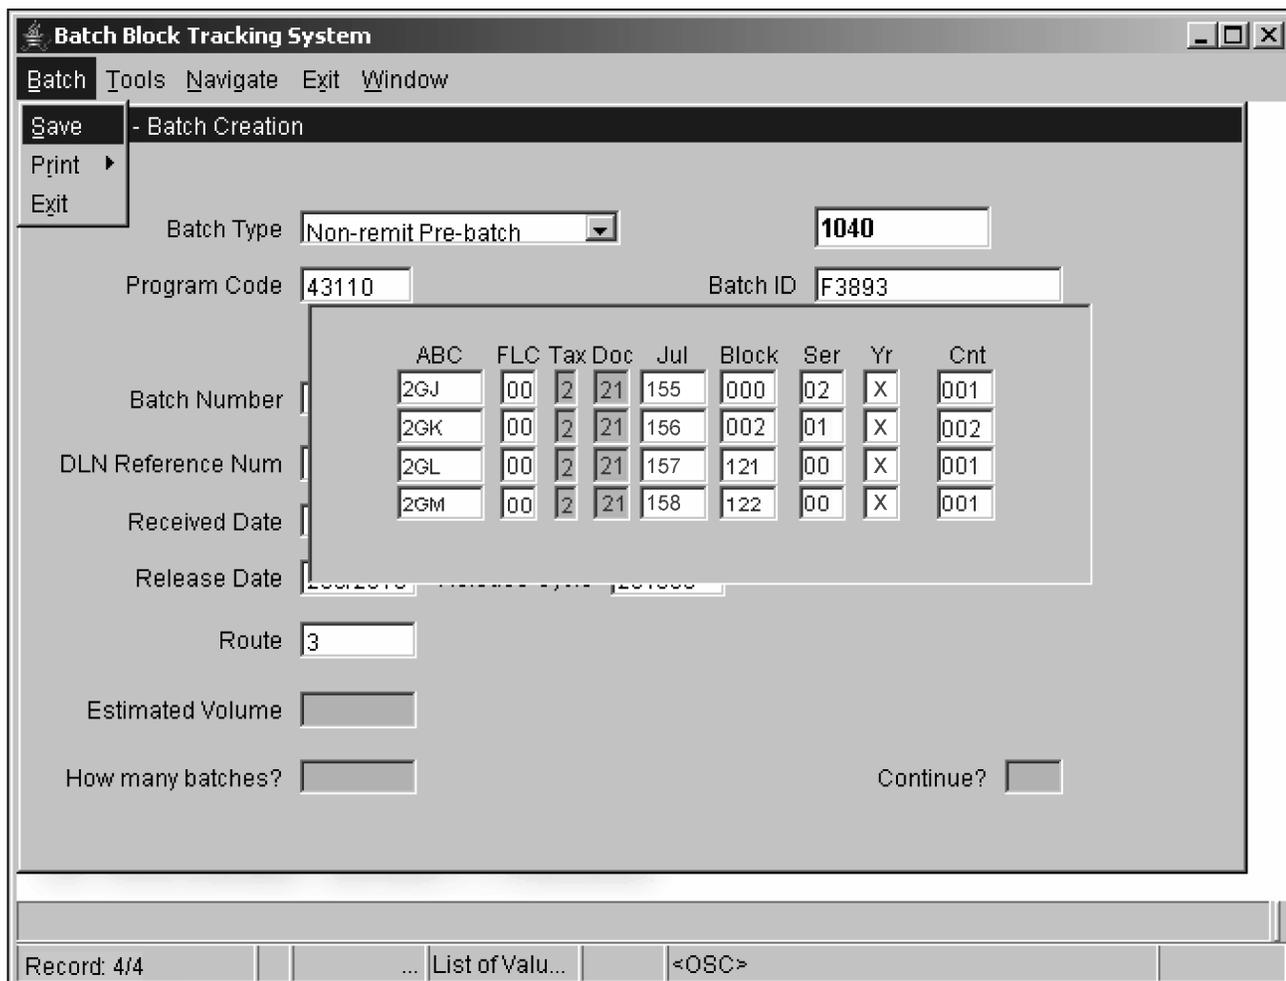

Figure 3.10.5-34 Navigating to Save on the Menu Bar
- k. On the Menu bar, click on “Batch” and then “Save”. **See Figure 3.10.5-34.**
- n. Select Form 9382. An image of the generated Batch Transmittal Form 9382 appears. See Figure 3.10.5-35